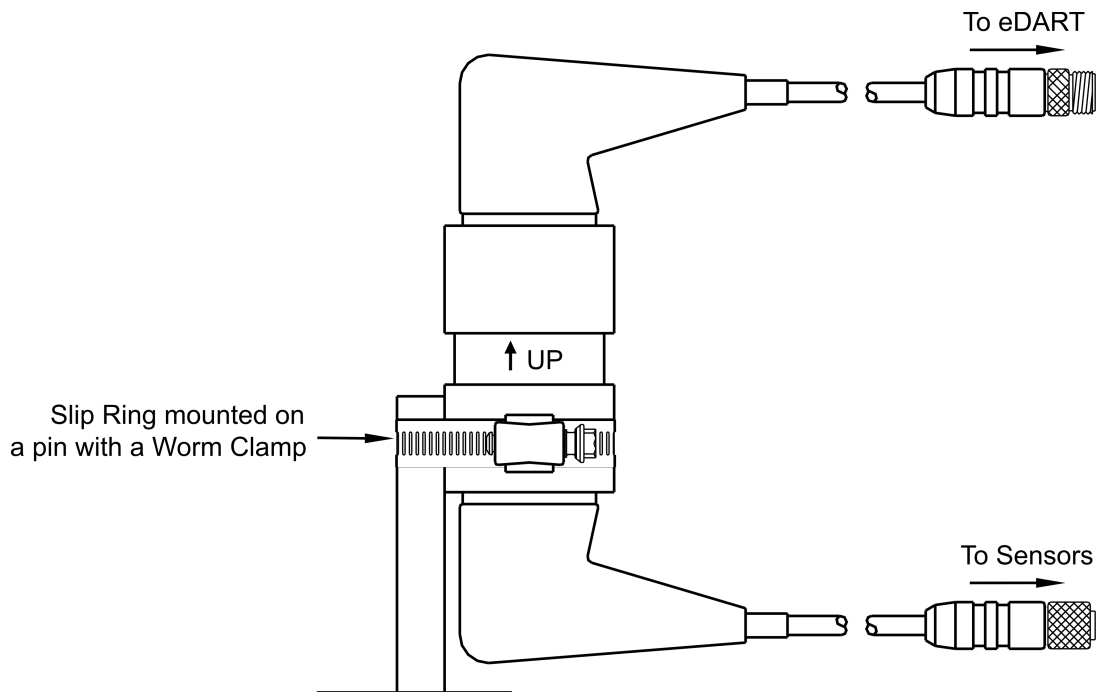

Figure 2: Mounting the Connector with a Clamp
2. Mount the slip ring assembly. The connector assembly can be mounted with a clamp to the lower plastic collar (See Figure 2). If there is a lot of vibration, rubber tubing can be used.